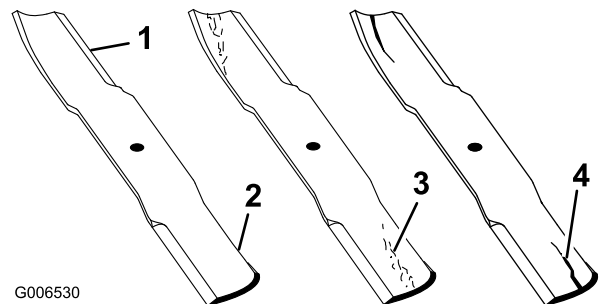

Figure 75
1. Inspect the cutting edges (Figure 75). If the edges are not sharp or have nicks, remove and sharpen the blades. Refer to Sharpening the Blades.
2. Inspect the blades, especially the curved area. If you notice any cracks, wear, or a slot forming in this area immediately install a new blades (Figure 75).